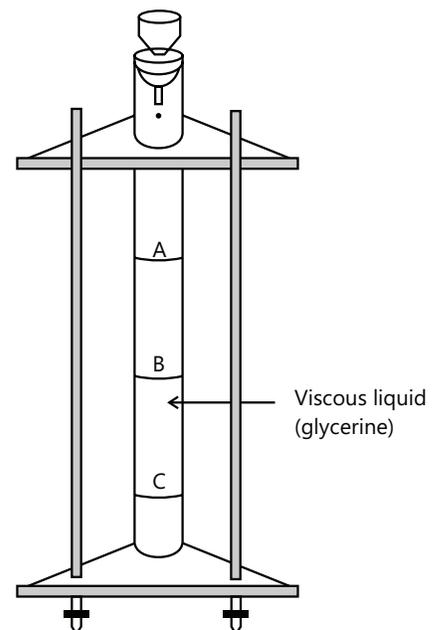

Figure 27.14
- Fix a short inlet tube vertically at the open end of the wide tube through a rubber stopper fixed to it. Alternatively, one may also use a glass funnel instead of an inlet tube as shown in the Fig 27.14. With the help of forceps, hold one of the balls of radius  $r_1$  near the top of tube. Allow the ball to fall freely. After passing through the inlet tube, the ball will fall along the axis of the liquid column.